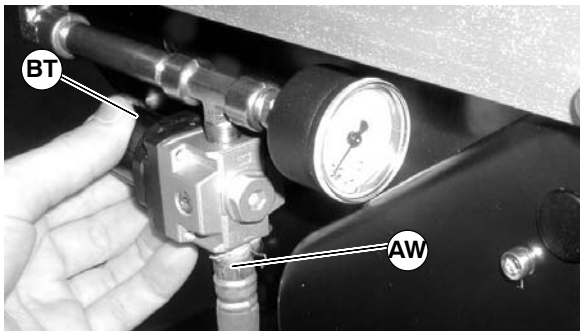

Figure 43
1. Connect air supply (AW of Figure 43) to regulator (BT).
2. Adjust regulator (BT of Figure 43) until gage reads the appropriate pressure. See following table for suggested pressures.